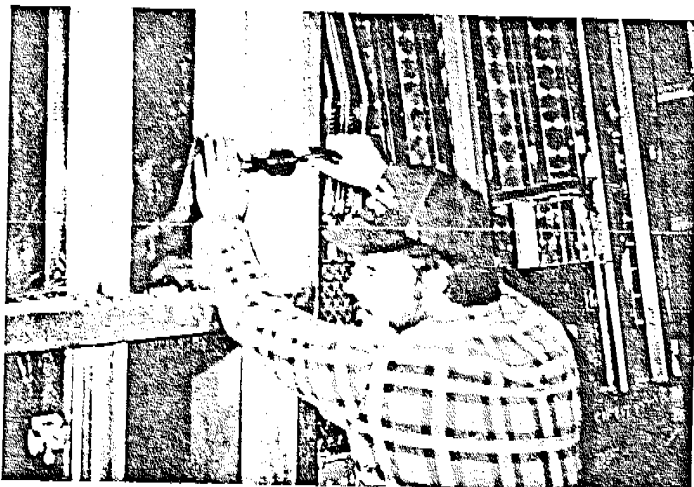

FIGURE 3
3. **REMOVE BOTH T BOLTS** from decks. (See Figure 3).